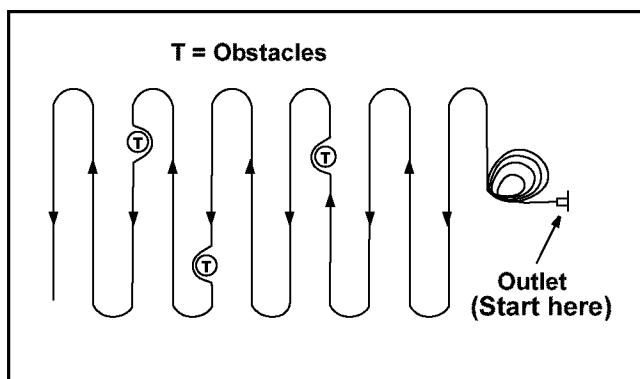

Figure 11
- Always start from the **point closest to the power source** where the cord is connected. Never mow around the lawn in circles; travel back and forth across the lawn, starting from the point closest to the outlet and then moving away from the outlet so the cord lies in the cut portion of the lawn, out of the way. See Figure 11.